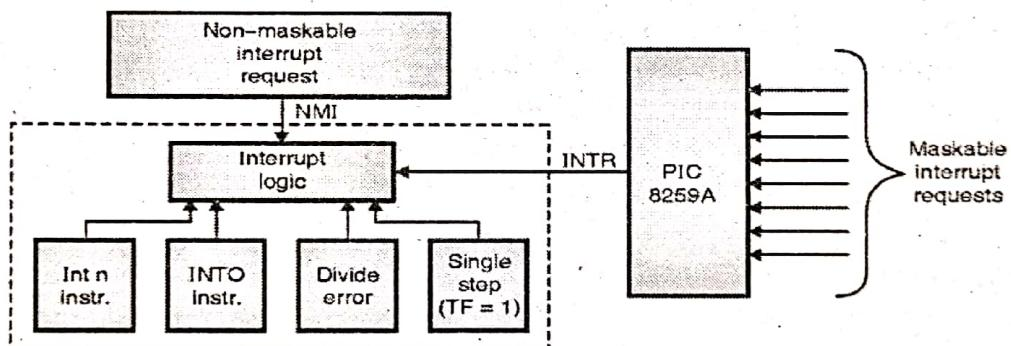

Fig. 2-Q. 6(b) : Interrupt sources for 8086
- The 8086 can handle upto 256 different interrupt types. Interrupts may be initiated by devices external to the CPU; in addition, they also may be triggered by software interrupt introductions and under certain condition, by the CPU itself Fig. 2-Q. 6(b) shows interrupt sources for 8086.
- In Fig. 2-Q. 6(b) 8086 have two lines that external device may use to signal interrupts.